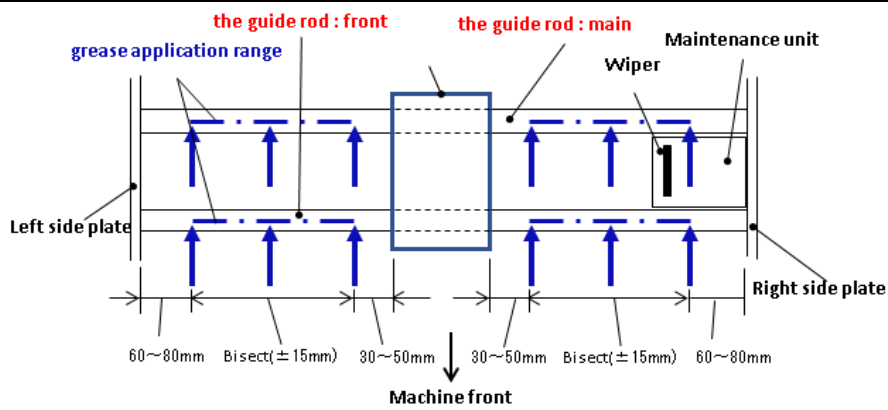

Fig. 1: Grease coverage
<p>Step 5</p>	<p>As shown in Fig. 1, <The Guide Rod: main> Apply approximately 0.01 ml of grease to each of the six peripheral parts of the arrow. <The Guide Rod: front> The six peripheral parts of the arrow. After putting grease, apply it to the full range of the dot-dash line and adjust it. Refer to Fig. 2 and Fig. 3 for the circumferential grease application range of the Guide Rod.</p>
Step 7	<p>Wipe away grease that protrudes far beyond the coverage of Fig. 1, 2 and 3. Also, confirm that grease is not attached to the Feeler Sensor.</p>  <p>Feeler Sensor</p>